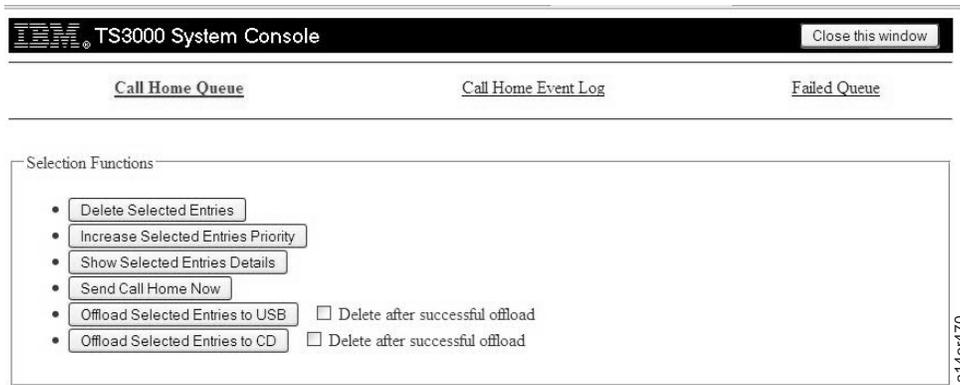

Figure 177. Call Home Queue Management - Main Screen
4. Click **Call Home Queue**. You see the Figure 177 on page 137. The various call home record types (in the "Type" column) are described in Table 14 on page 137.
Table 14. Call Home Record Types. From the Type column in Figure 177.